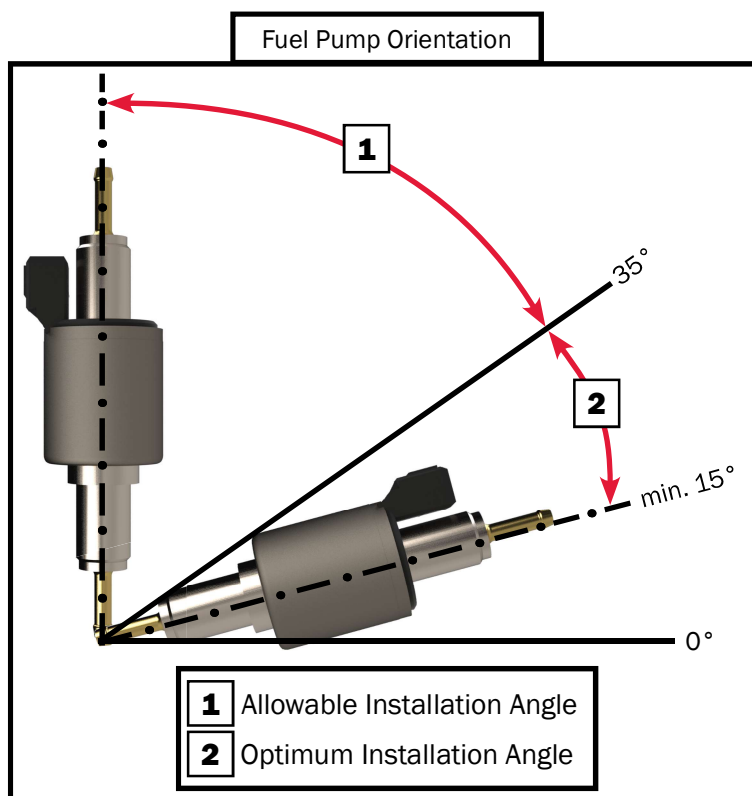

Figure 91
- The outlet of the fuel pump is required to be installed upwards. The angle should be between 15°-35°. See Figure 91 for fuel pump orientation.